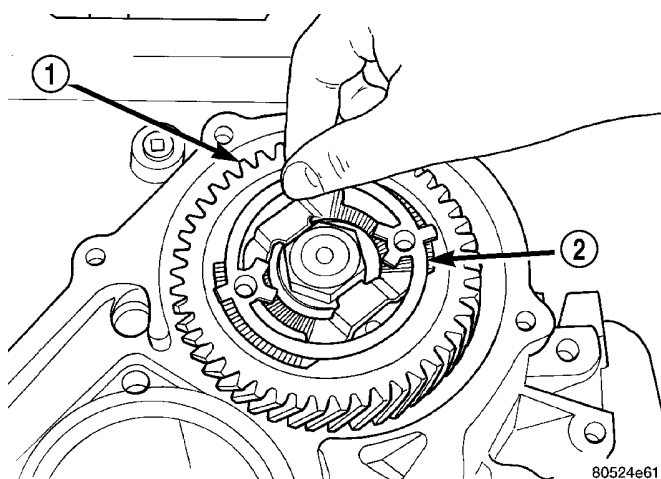

Fig. 122 Remove Strap From Stirrup and Gear
(3) Remove strap from output gear and stirrup (Fig. 122).